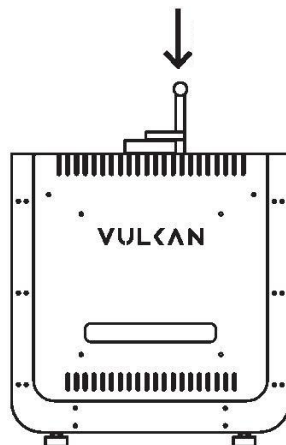

Fig. 2
7.4 Open the upper damper (Fig. 2) and do not close it for 25-30 minutes. This will allow gases released from coal during ignition to escape and will speed up heating. After that, the damper can be closed.